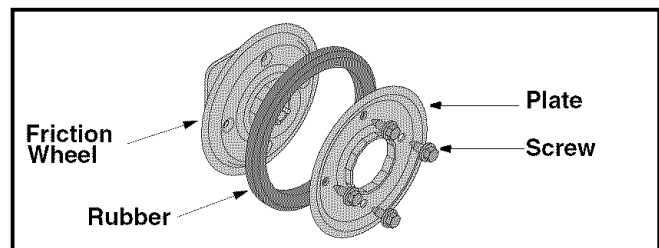

Figure 27
- Remove the four screws from the friction wheel assembly. Remove friction wheel rubber from between the friction wheel plate. See Figure 27.
- Reassemble new friction wheel rubber to the friction wheel assembly, tightening the four screws in rotation and with equal force. See Figure 27.